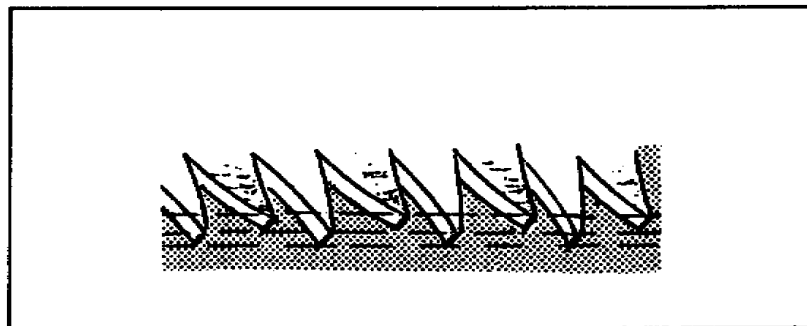

Figure 2-7. Ripsaw teeth
(2) Ripsaw. This saw is used to cut with (or *parallel* to) the grain of the wood. The teeth of a ripsaw (Figure 2-7) are a series of little chisels set in two parallel rows. On each full stroke of the saw, the edges chisel off a little from the end of the wood fibers. This cut is also called a *kerf*.